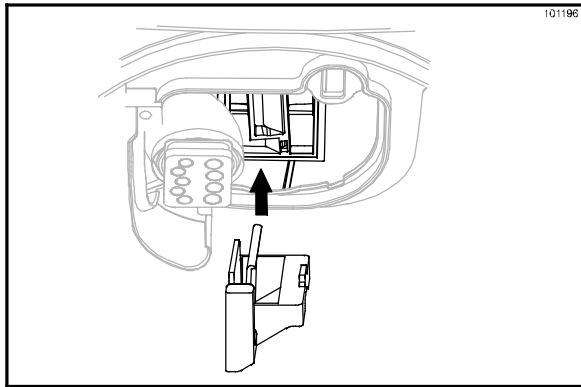

Figure 186
10. Install a blade guard on the old ice shaver blade. (See Figure 186.)